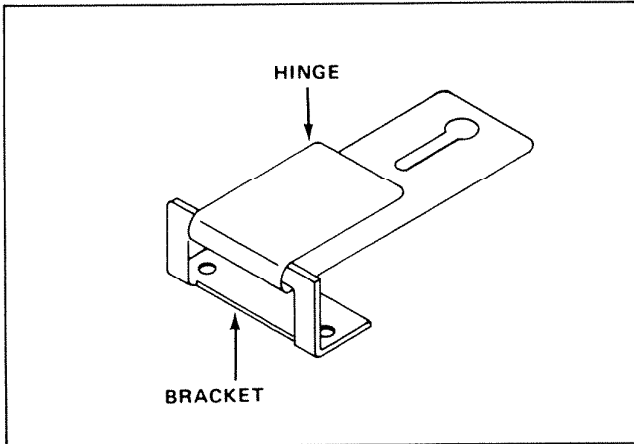

FIGURE 1
1. Assemble hinge and bracket as shown in Figure 1.